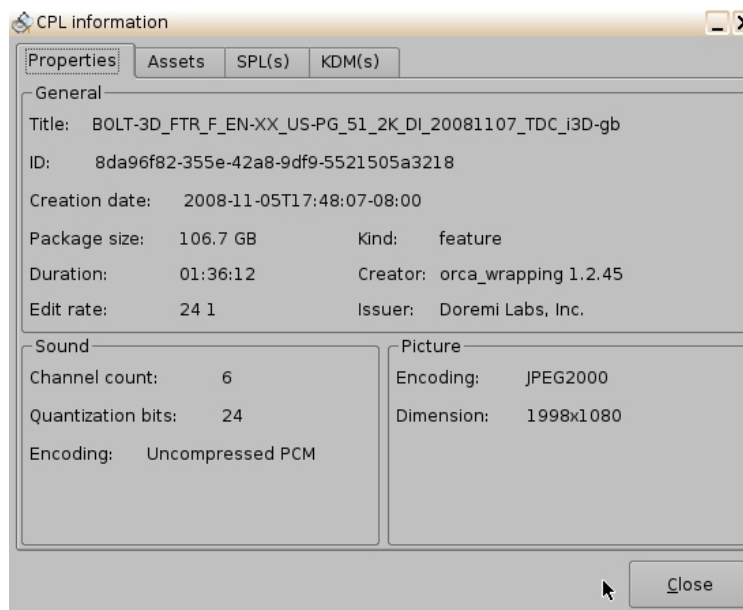

Figure 65: CPL Information Window - Properties Tab
- The following window will appear (Figure 65):
- The Properties tab displays the following information about the CPL (Figure 65):